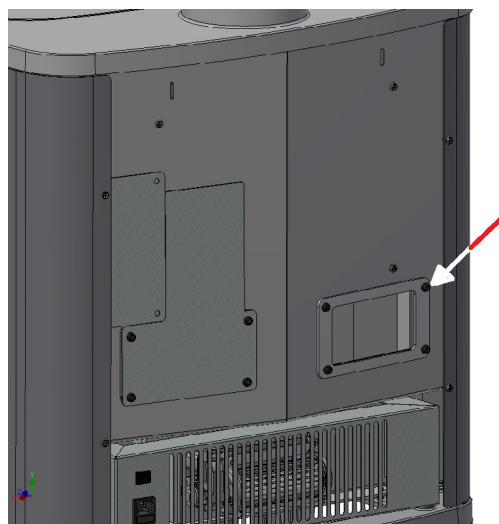

Fig. 14 - Remove the screws
- Open the cleaning cap by unscrewing the 4 screws CH 8 (see **Fig. 14**).